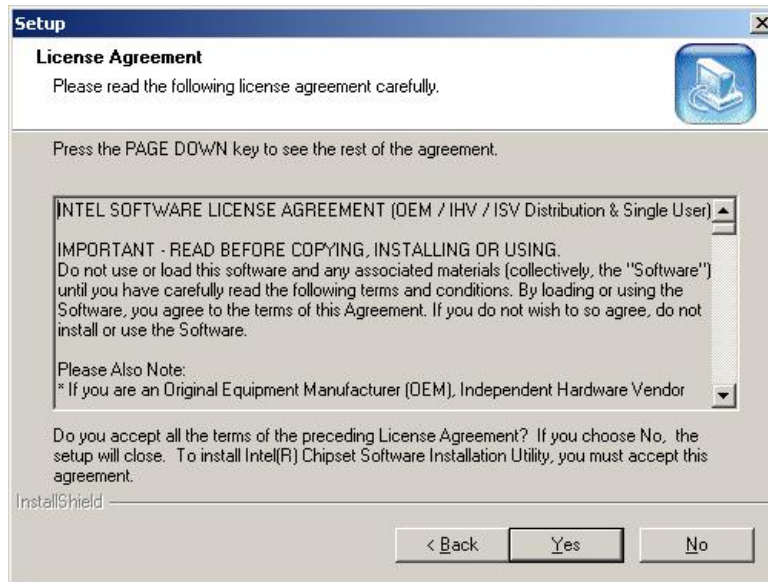

Figure 7-3: License Agreement
Step 4: Click “NEXT” and the license agreement shown in **Figure 7-3** appears.